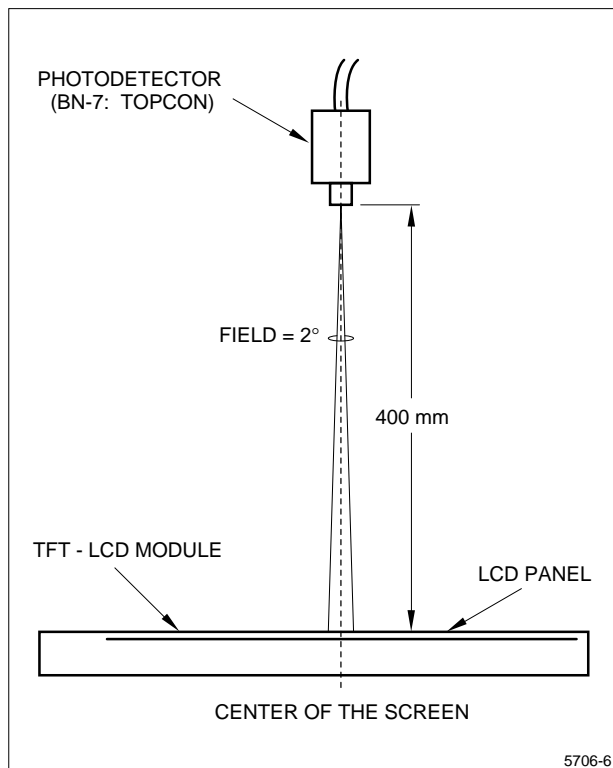

Figure 4. Optical Characteristics Measurement Method
- The measurement shall be executed 15-20 minutes after the module has been lit at the proper rating. The optical characteristics shall be measured in a dark room or equivalent state with the method shown in Figure 4.